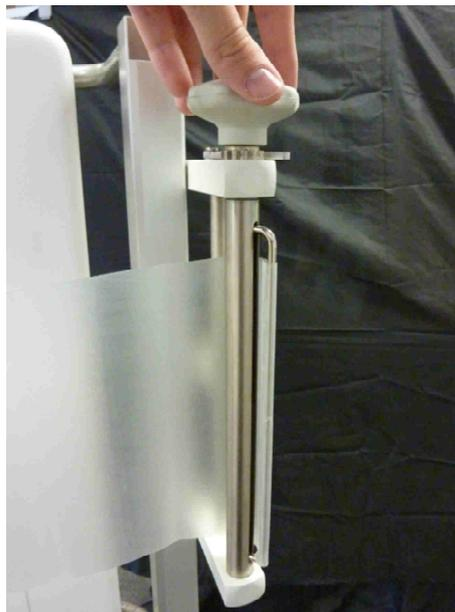

Figure 4-6
Step 4: Hold the band and turn the hand wheel to fasten the compression band (Figure 4-6).